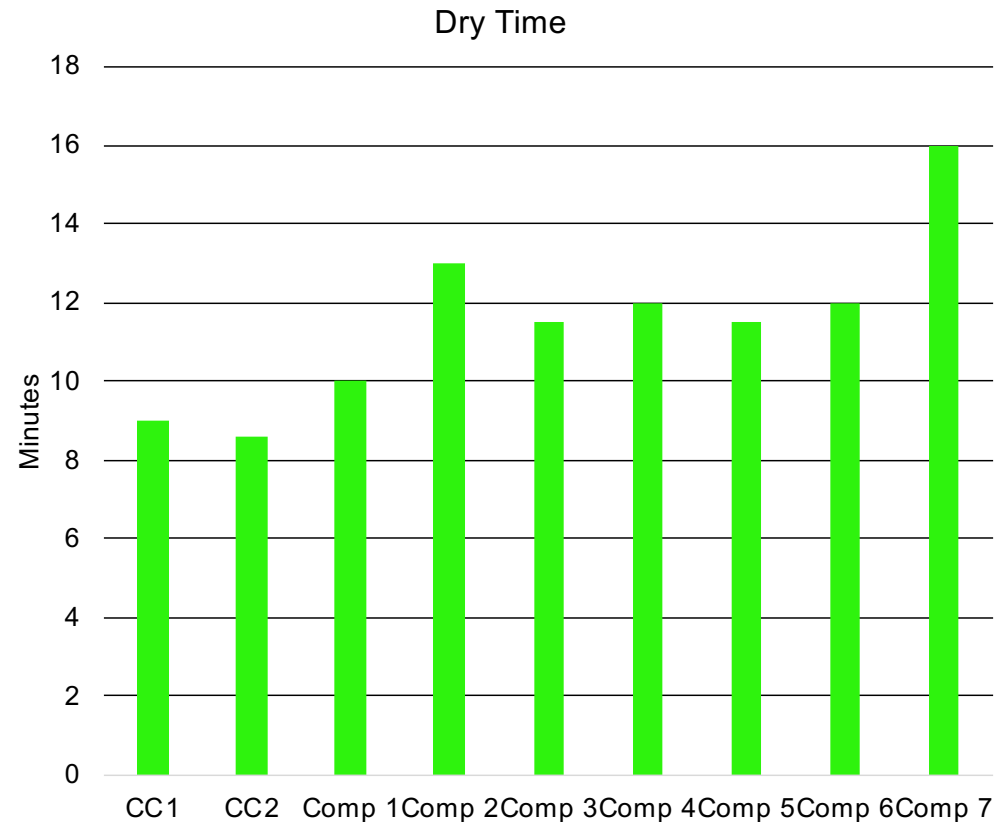

Figure 9. WATson Drying Time of select Coolcore fabrics against market competition.
- Figure 9 reports the Dry Time of the selected materials evaluated.
- Referencing Figure 9, two materials positively illustrate exceptional dry times over the other materials tested.